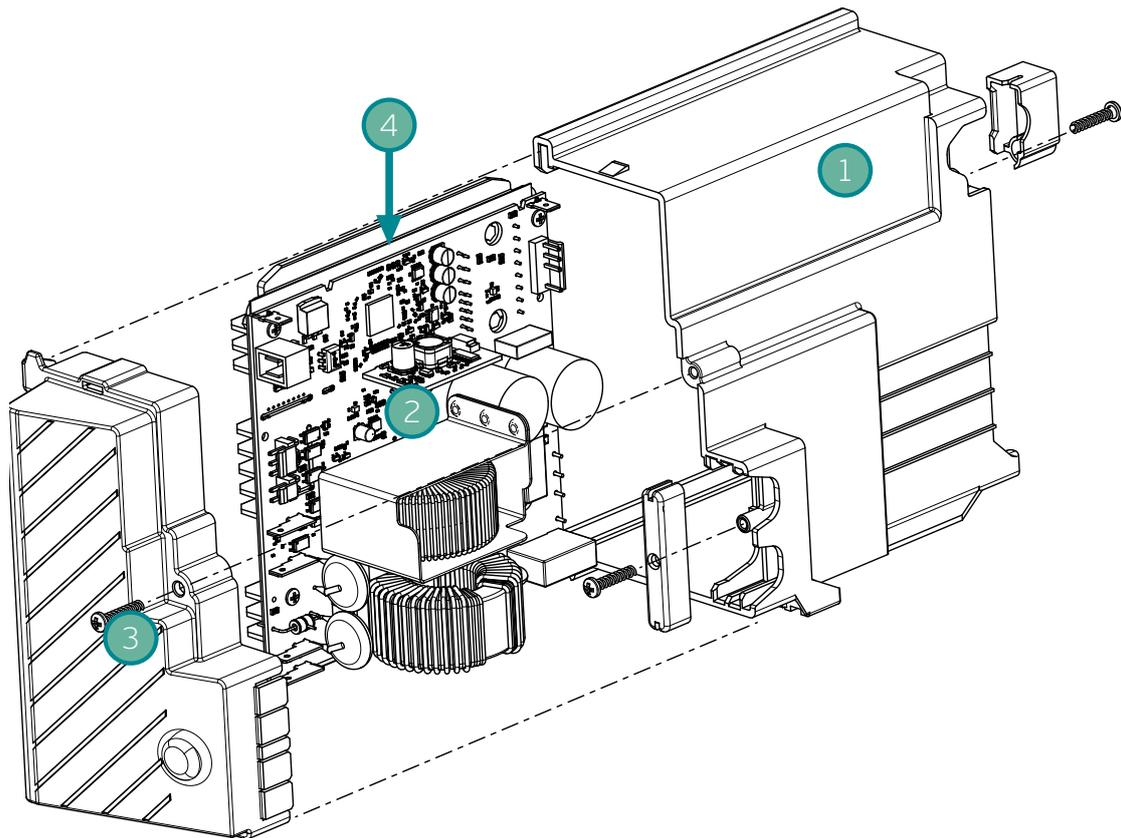
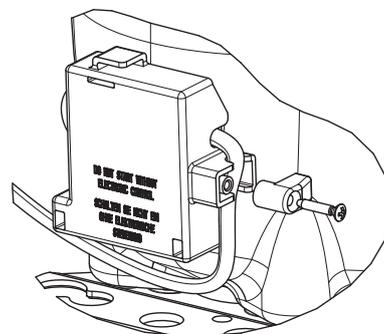
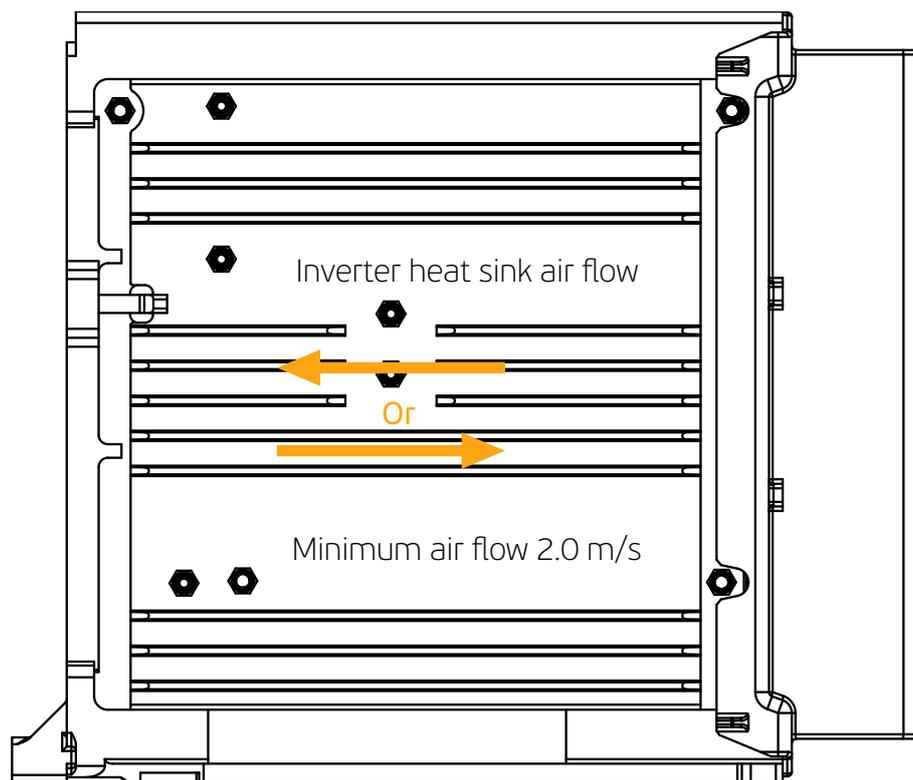

Figure 3.1: Inverter overview
Figure 3.5: Step 4
Figure 3.9: Inverter air flow direction
- The screws shown in Figure 3.1 and Figure 3.5 must be fixed with a torque within 0.8 – 1.2 Nm range.
Both air flow directions are acceptable, but position above illustrated is preferred. The inverter heat sink air flow is shown in Figure 3.9. As reference, the heat sink also is shown on Figure 3.1.